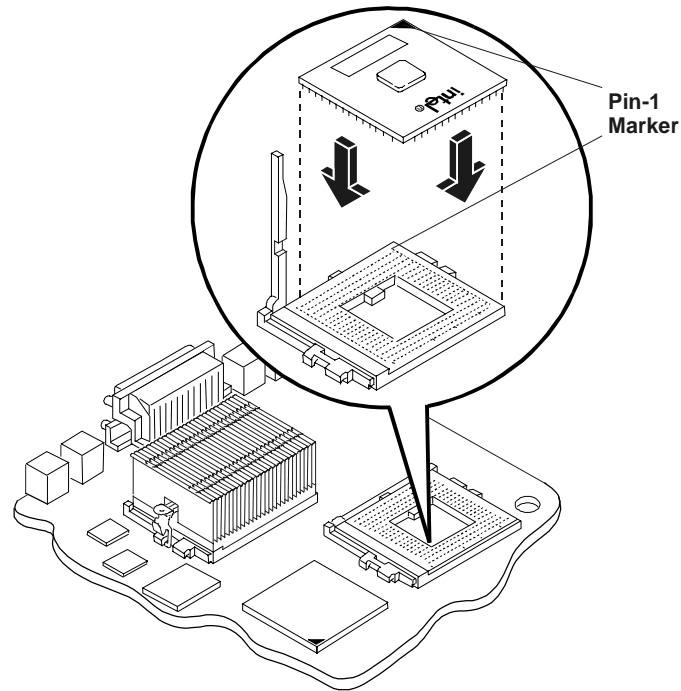

Figure 6-4. Installing the Processor on the System Board
The socket has a triangle marking for pin-1 that should match the triangle for pin-1 on the processor near the end of the ZIF lever. See Figure 6-4.
5. Open the ZIF lever to allow removal of the processor. See Figure 6-4.